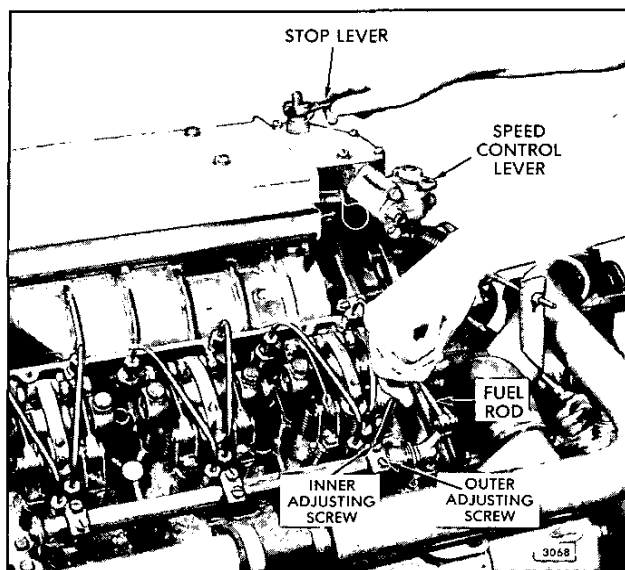

Fig. 3 - Positioning No. 3L Injector Rack Control Lever
4. Move the stop lever to the *run* position and hold it in that position with light finger pressure. Turn the inner adjusting screw of the No. 3L injector rack control lever down (Fig. 3) until a slight movement of the control tube is observed, or a step-up in effort to turn the screw driver is noted. This will place the No. 3L injector rack in the *full-fuel* position. Turn the outer adjusting screw down until it bottoms lightly on the injector control tube. Then alternately tighten both the inner and outer adjusting screws.